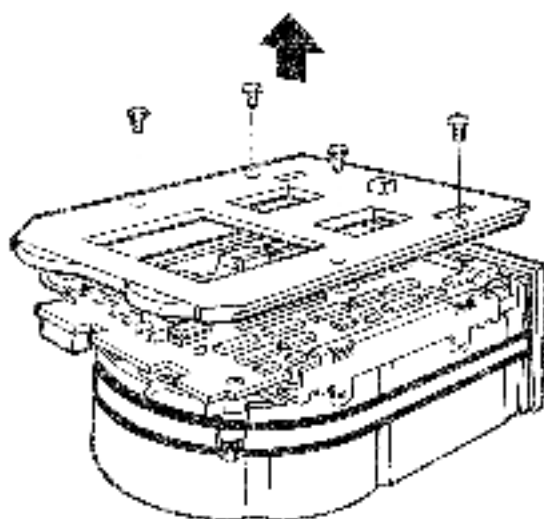

Figure 10-9 Slide Plate Removal
1. Remove the four Phillips screws retaining the slide plate and ground cbp. Set the slide plate aside (Figure 10-9).